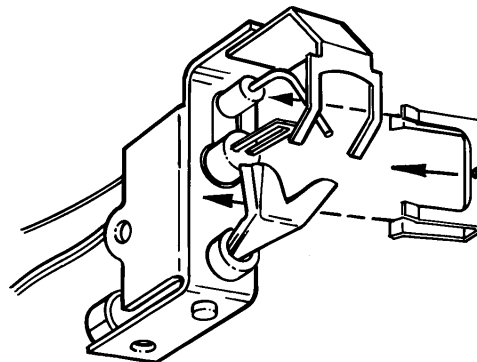

FIG. 8 - IGNITOR AND FLAME SENSOR ASSEMBLY
1. Remove the clip attaching the ignitor and sensor assembly as shown in Figure 8.